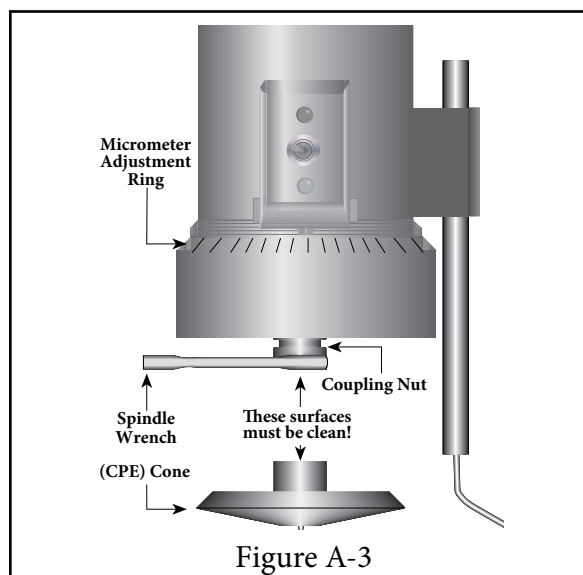

Figure A-3
4. With the motor off, thread the cone spindle by using the spindle wrench to secure the viscometer coupling nut (see **Figure A-3**); gently push up on the coupling nut and hold this securely with the wrench. Thread the cone spindle by hand. Note: Left Hand Threads.